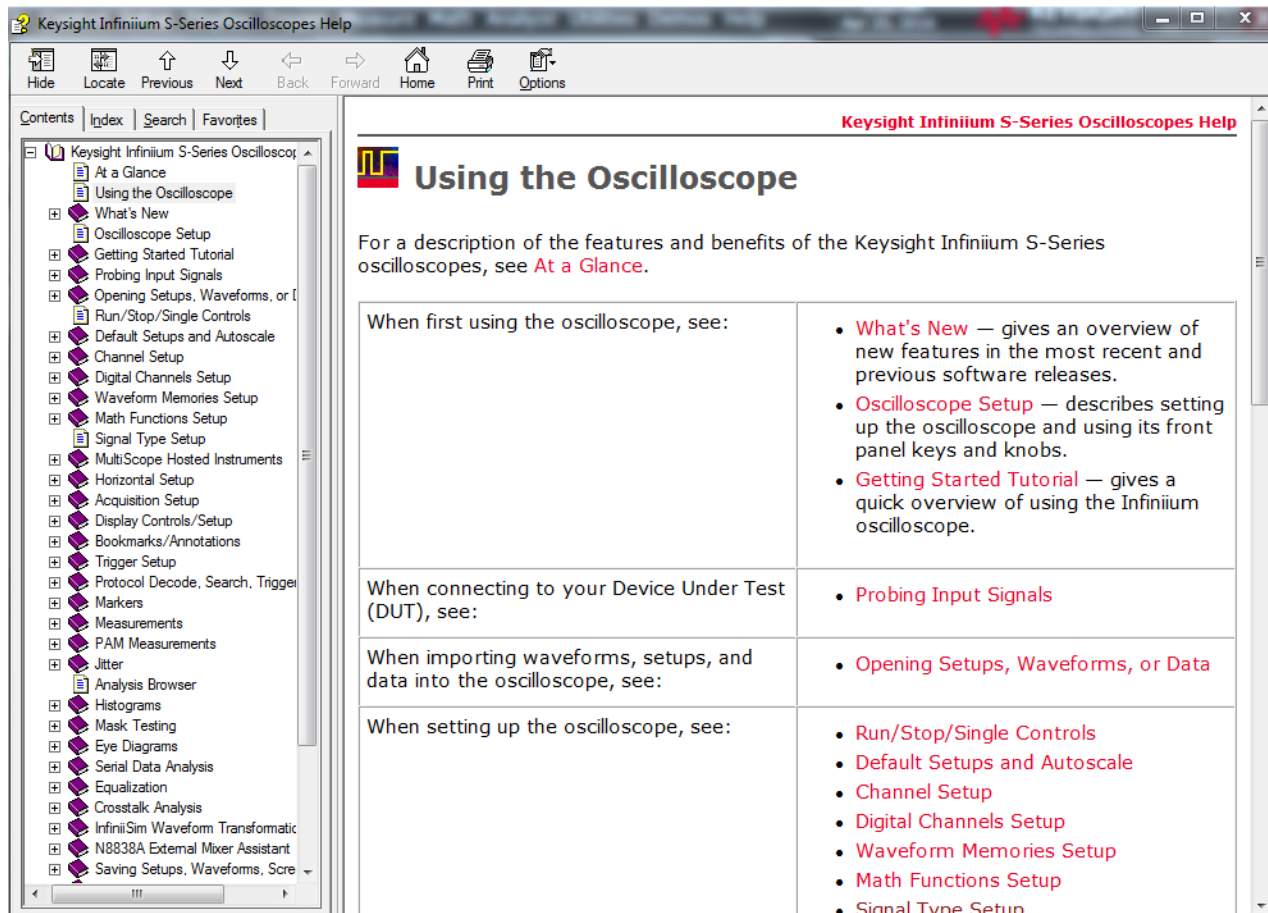

Figure 20 Online Help home page
- Choose **Help > Contents...** from the main menu to open the online help home page (Figure 20).